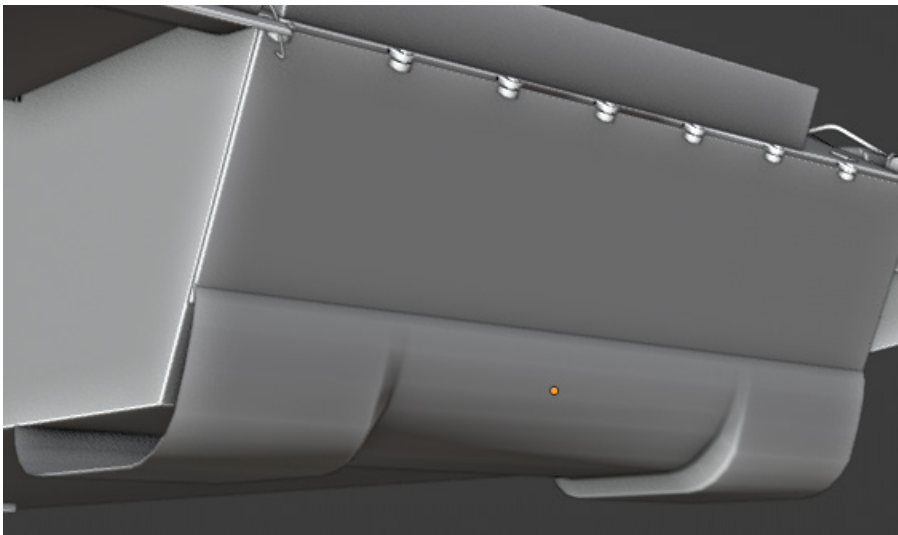

Figure 8.61 – A beveled shape
4. Bevel some of the edges to create a shape like the one shown in *Figure 8.61*.